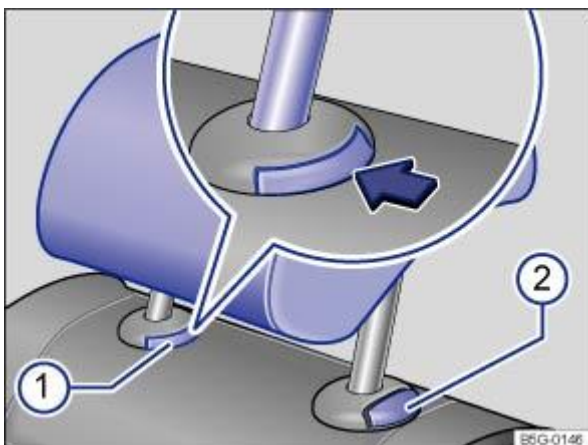

Fig. 75 Rear head restraint: removing.
Press button ⇒ Fig. 75 ① on the head restraint guide.
Press and hold the button ⇒ Fig. 75 ② and push down the head restraint.